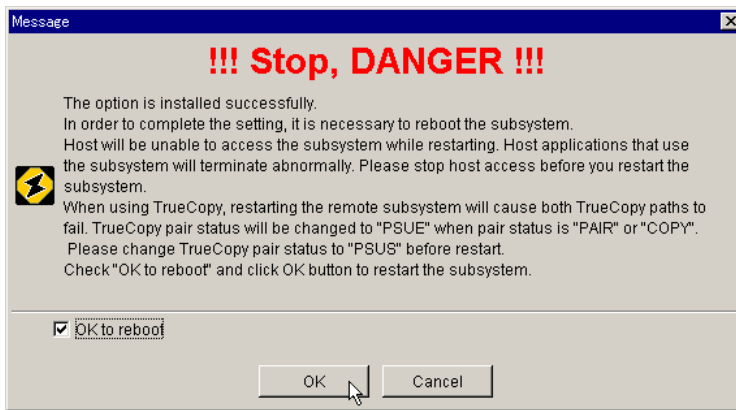

Figure 4.33 Restart Warning Dialog Box
6. If restarting is necessary, the **Restart Warning** dialog box will display (see Figure 4.33). Stop host access before continuing. If you are using TrueCopy or TrueCopy Extended Distance, change the pair status to PSUS before you reboot. Check **OK to reboot**, and then click **OK** on the **Warning** dialog box.
5. If restarting is necessary, the **Restart Warning** dialog box will display (see Figure 4.33). Stop host access before continuing. If you are using TrueCopy or TrueCopy Extended Distance, change the pair status to PSUS before you reboot. Check **OK to reboot**, and then click **OK** on the **Warning** dialog box.